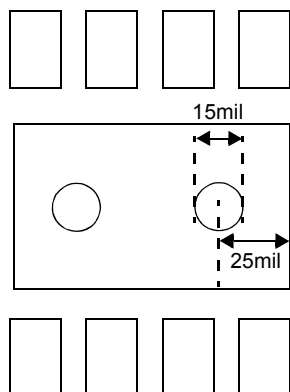

Figure 39. Two Through-Hole Open Vias Embedded in DAP
- The IN, OUTs, and GND pins dissipate most of the heat generated during a high-load current condition. The layout suggested in Figure 39 illustrates a proper layout for devices in MLP 3x3mm packages. IN, OUTs, and GND pins are connected to adequate copper so that heat may be transferred as efficiently as possible out of the device. The low-power FLAGB and ON pins' traces may be laid-out diagonally from the device to maximize the area available to the ground pad. Placing the input and output capacitors as close to the device as possible also contributes to heat dissipation, particularly during high load currents.